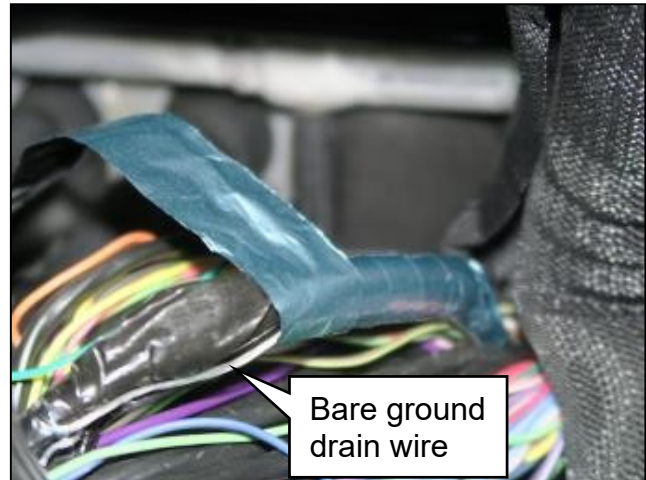

Figure 26
- c. **Making sure the blue side is visible**, wrap the aluminum tape around the transmission power supply wire and the bare ground drain wire (Figure 26).